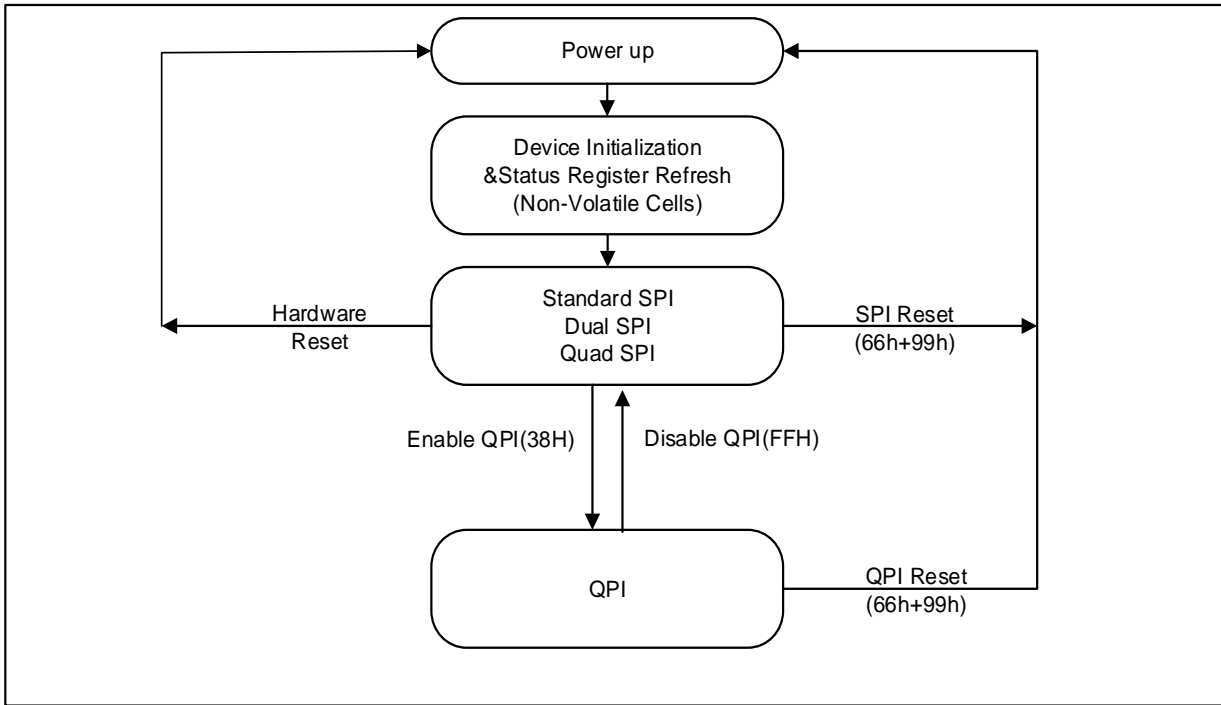

Figure 3. XM25QU16C Serial Flash Memory Operation Diagram
The XM25QU16C supports Quad Peripheral Interface (QPI) operations only when the device is switched from Standard/Dual/Quad SPI mode to QPI mode using the “Enter QPI (38h)” instruction. The typical SPI protocol requires that the byte-long instruction code being shifted into the device only via DI pin in eight serial clocks. The QPI mode utilizes all four IO pins to input the instruction code, thus only two serial clocks are required. This can significantly reduce the SPI instruction overhead and improve system performance in an XIP environment. Standard/Dual/Quad SPI mode and QPI mode are exclusive. Only one mode can be active at any given time. “Enter QPI (38h)” and “Exit QPI (FFh)” instructions are used to switch between these two modes. Upon power-up or after a software reset using “Reset (99h)” instruction, the default state of the device is Standard/Dual/Quad SPI mode. To enable QPI mode, the non-volatile Quad Enable bit (QE) in Status Register-2 is required to be set. When using QPI instructions, the DI and DO pins become bidirectional IO0 and IO1, and the /WP and /HOLD pins become IO2 and IO3 respectively. See Figure 3 for the device operation modes.